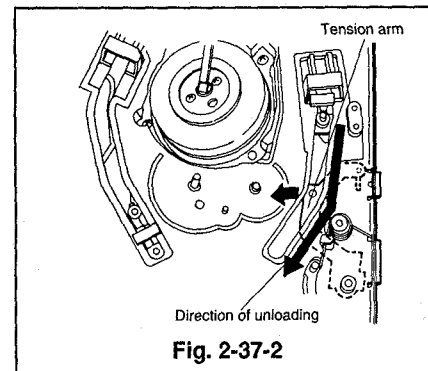

Fig. 2-37-2
- 1 Move the takeup and supply tape guides to the unloaded position. If the supply tape guide is in the loaded position it will be necessary to shift the tension arm in the direction of the arrow in Fig. 2-37-2 at the same time moving the supply tape guide to the unloading position.